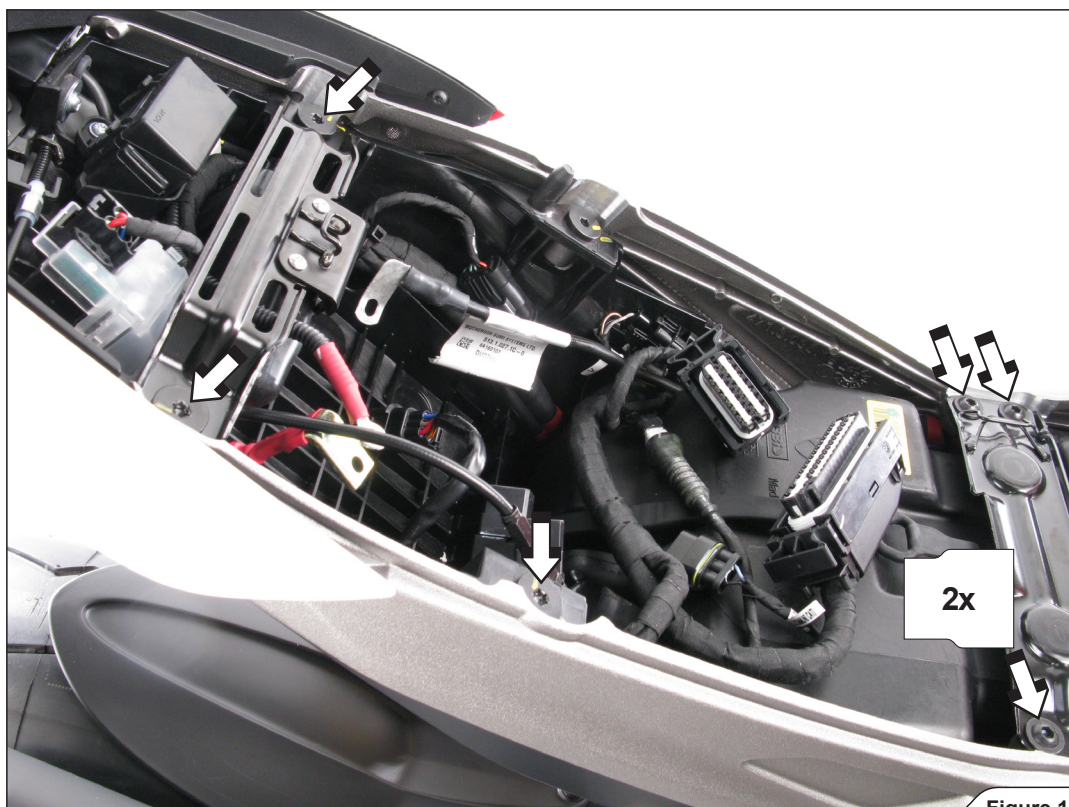

Figure 10
11. For Ducati Hypermotard 939 SP only: Unscrew all bolts on marked subframe brackets and remove them (Figure 10).